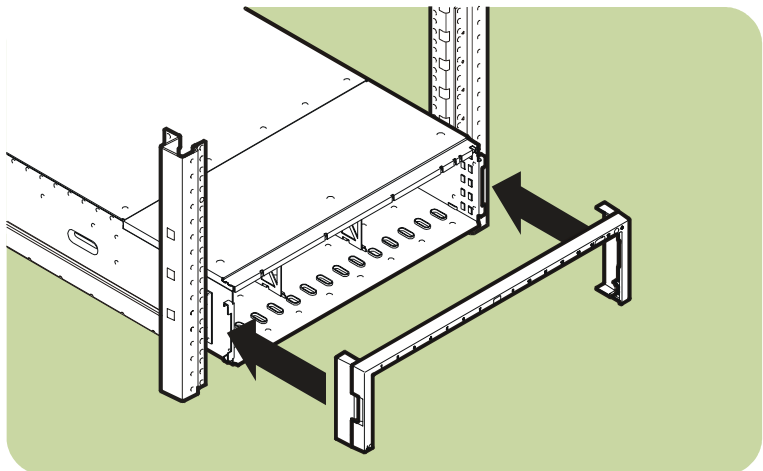

Fig. 20. Installing front bezel in HP Rack System/E
14. Re-install the front bezel and spacers (see Fig. 20).